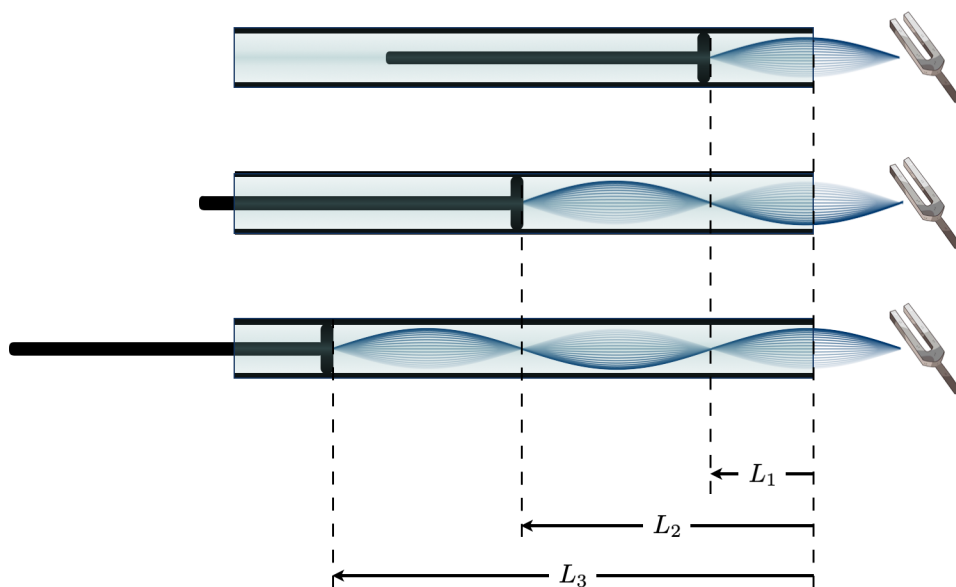

Figure 3: Tuning fork and open tube with an adjustable length L . The diagram shows the displacement waves of air.
In this experiment, you will measure the speed of sound indirectly by measuring the wavelength of a specific frequency of sound produced by a tuning fork. The resulting sound waves will enter a cylindrical cavity whose length you control, as shown in Figure 3. You will find the harmonics by changing the length of this cavity, which then allows you to infer the wavelength of the sound waves. With the frequency and wavelength measured, you can infer the sound speed using eq. (1).
1. Set up the apparatus as shown in Fig. 3. Position the tuning fork at the end of the plastic tube with its edge about 1 cm from the open end of the tube.